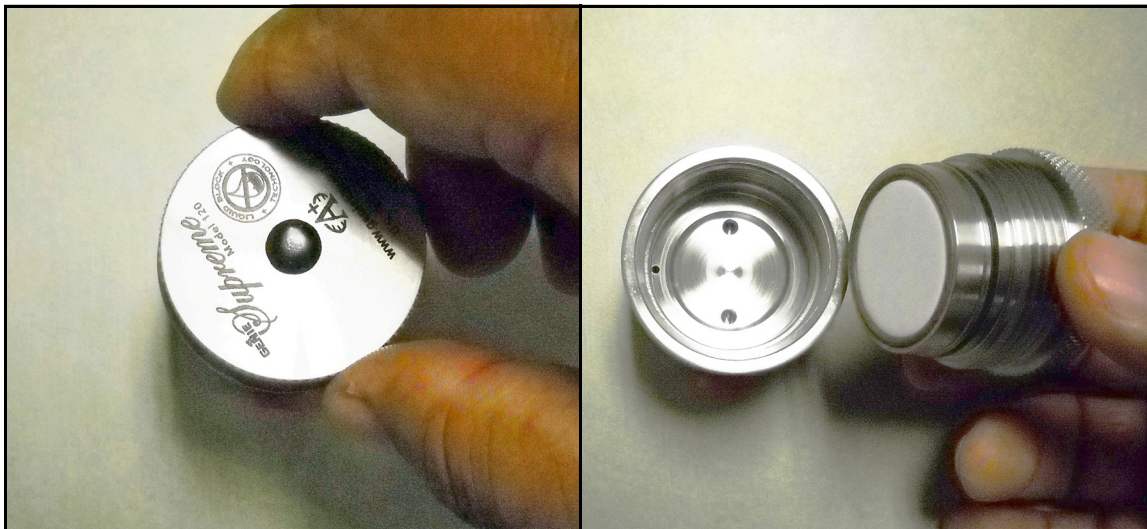

Figure 62: Removing the Filter Cap
2. Turn the filter cap counter-clockwise (see *Figure 62* below). You might need to use a channel-lock wrench to assist in loosening the cap.